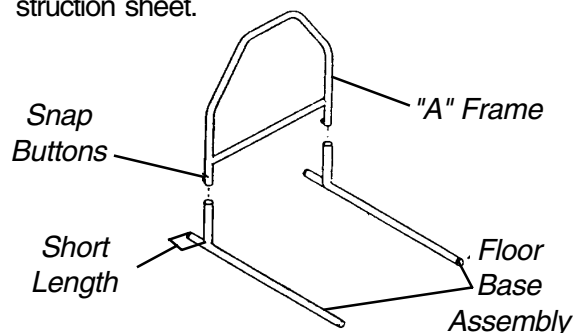

FIGURE 1 - ASSEMBLING FLOOR BASE
ASSEMBLING FLOOR BASE (FIGURE 1)
1. Install the "A" frame into the floor base assembly with the snap buttons facing the short length of the floor base as shown in FIGURE 1.
2. Depress the snap button on one (1) leg of the "A" frame and slide it into the floor leg assembly until an audible "click" is heard. Repeat for the opposite side.